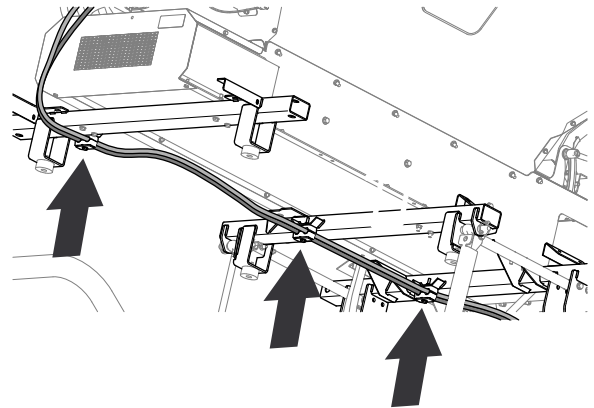
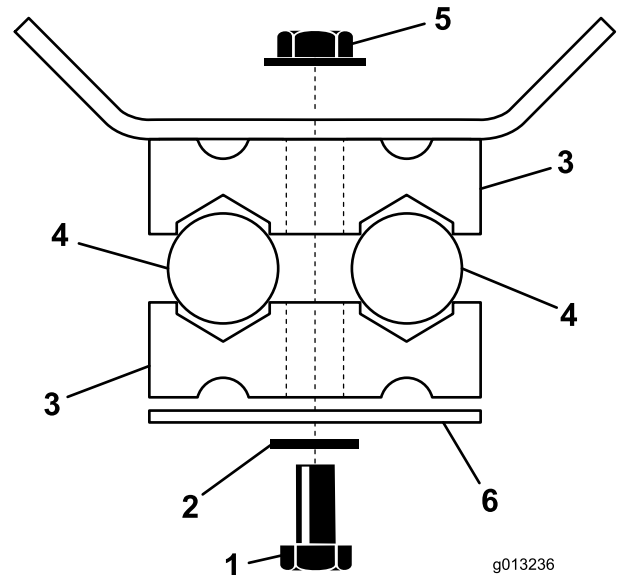

Figure 22
Figure 23
1. Route the hydraulic pressure and return hoses along the right the top dresser frame rail as shown in Figure 22.
2. Loosely assemble the hoses to the 3 hose-mount brackets located at the front, center and rear cross members (Figure 22 and Figure 23) with a 3 capscrews (1/4 x 2-3/4 inches), 3 washers (1/4 inch), 3 clamp plates, 6 tube-clamp halves, and 3 flange locknuts (1/4 inch).
- Tighten the 3 capscrews and 3 locknuts that secure the tube-clamp halves (Figure 23).